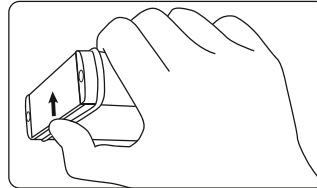

Fig. 1-1: Releasing the lock
- ☞ Press against the hinge lightly from below (Fig. 1-1).